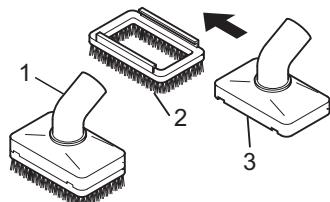

Fig. 6
- Furniture brush (Fig. 6/1)**
- Upholstery nozzle (Fig. 6/3)**
By simply pushing off the brush attachment (Fig. 6/2) you can make an upholstery brush (Fig. 6/3) from the 2-in-1 combi-nozzle. Use this to clean soft, scratch-resistant surfaces (e.g. upholstered furniture).